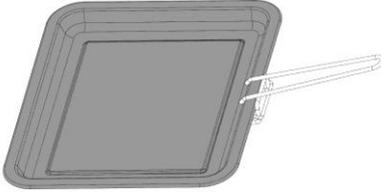

Fig. 3
- How to fit the handle to the baking tray and grill rack - See figs. 3 & 4.
- Always use the handle supplied with the rack when fitting or removing the rack / tray from the oven. See figs 3 & 4 below on how to fit the handle.